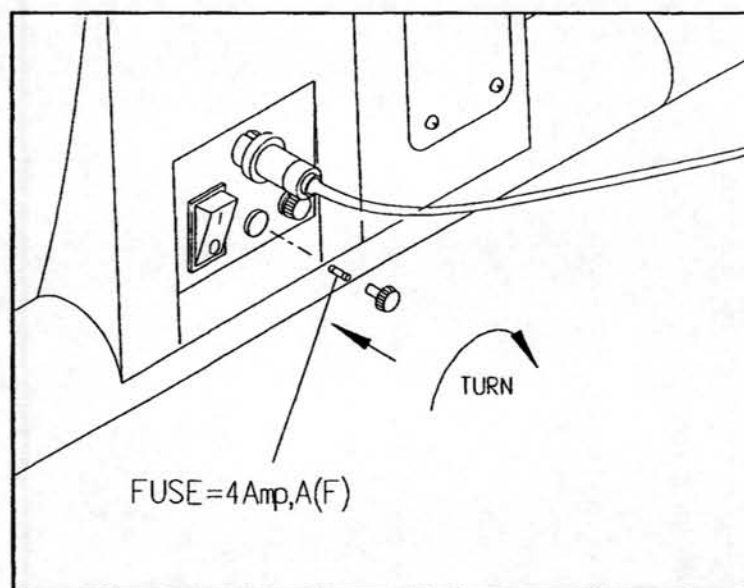

Fig.19-2
2. Remove the damaged fuse and insert a new one. Push the fuse holder with fuse in, turning clockwise to secure it (see fig. 19-2).